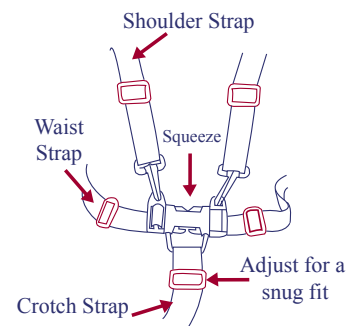

Figure 12c.
- Carefully place the child in the stroller seat and bring the safety harness around the child's waist and over the shoulders. Place the crotch strap between the child's legs. Insert the male end of each shoulder/waist belt into the buckle on the crotch strap. Tighten the harness to be snug around the child's waist and over the child's shoulders. Please see figure 12c.